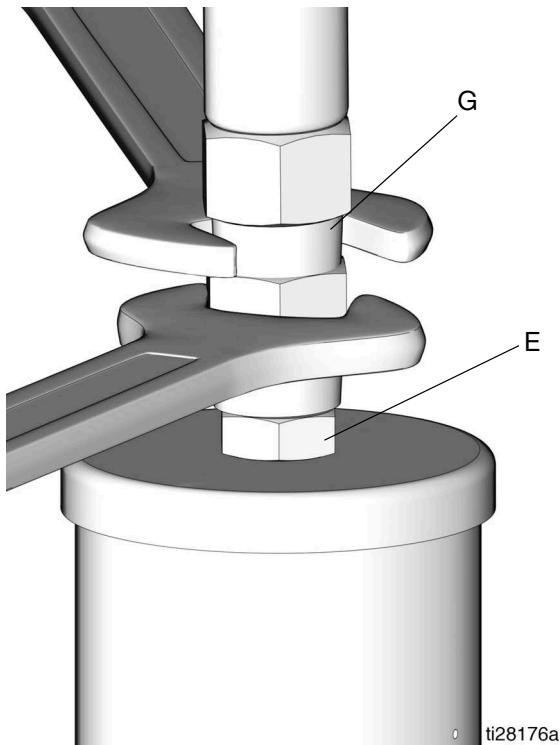

FIG. 8
2. Relieve pressure in the system using two wrenches working in opposite directions on the pump outlet (E) and lubrication line fitting (G) to slowly loosen the fitting until it is loose and no more lubricant or air is leaking out of the fitting (FIG. 8).